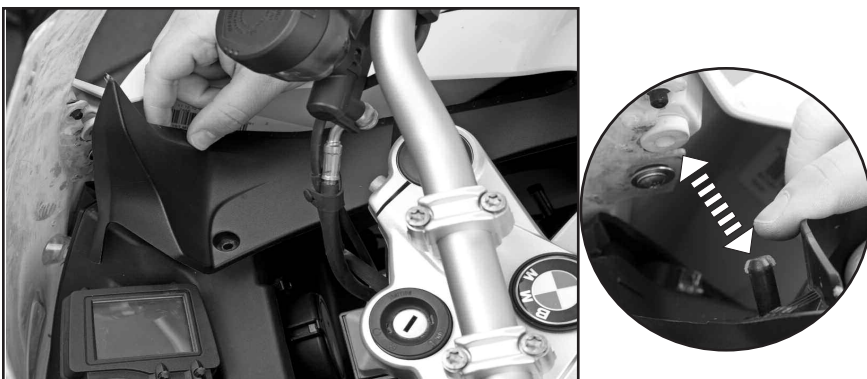

Figure 4
C. Remove Internal Cover. **Figure 4**